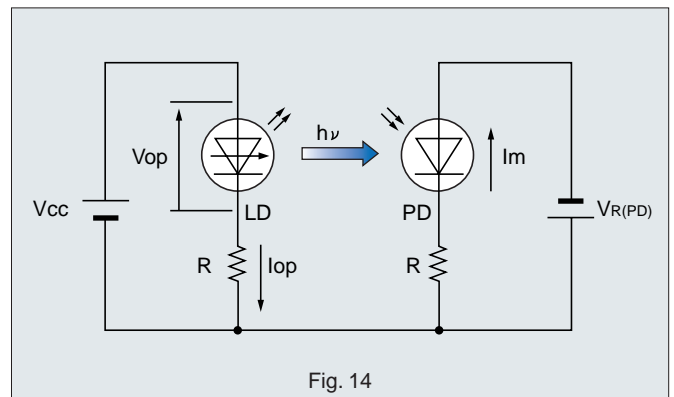

Fig. 14
■ **Electrical characteristics** (Fig. 14)